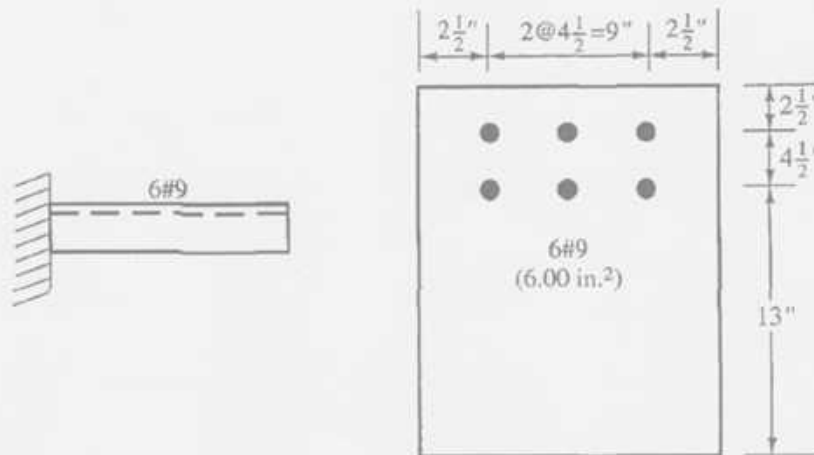

Figure-6
7. a) Determine the development or embedment length required for the epoxy-coated bars of the beam shown in Figure-6.